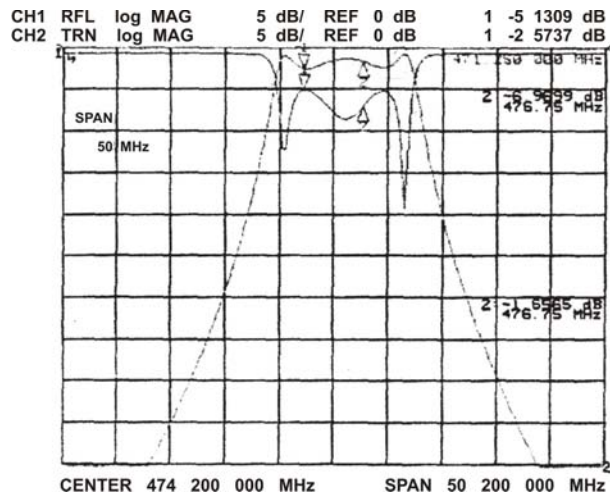

Fig. 2
4. Act on the tuning rods 1 and 2 until the curve of the band-pass appears in the centre of the screen, and adjust it by means of the couplings 3 to obtain a width of about 10MHz (Fig. 2).